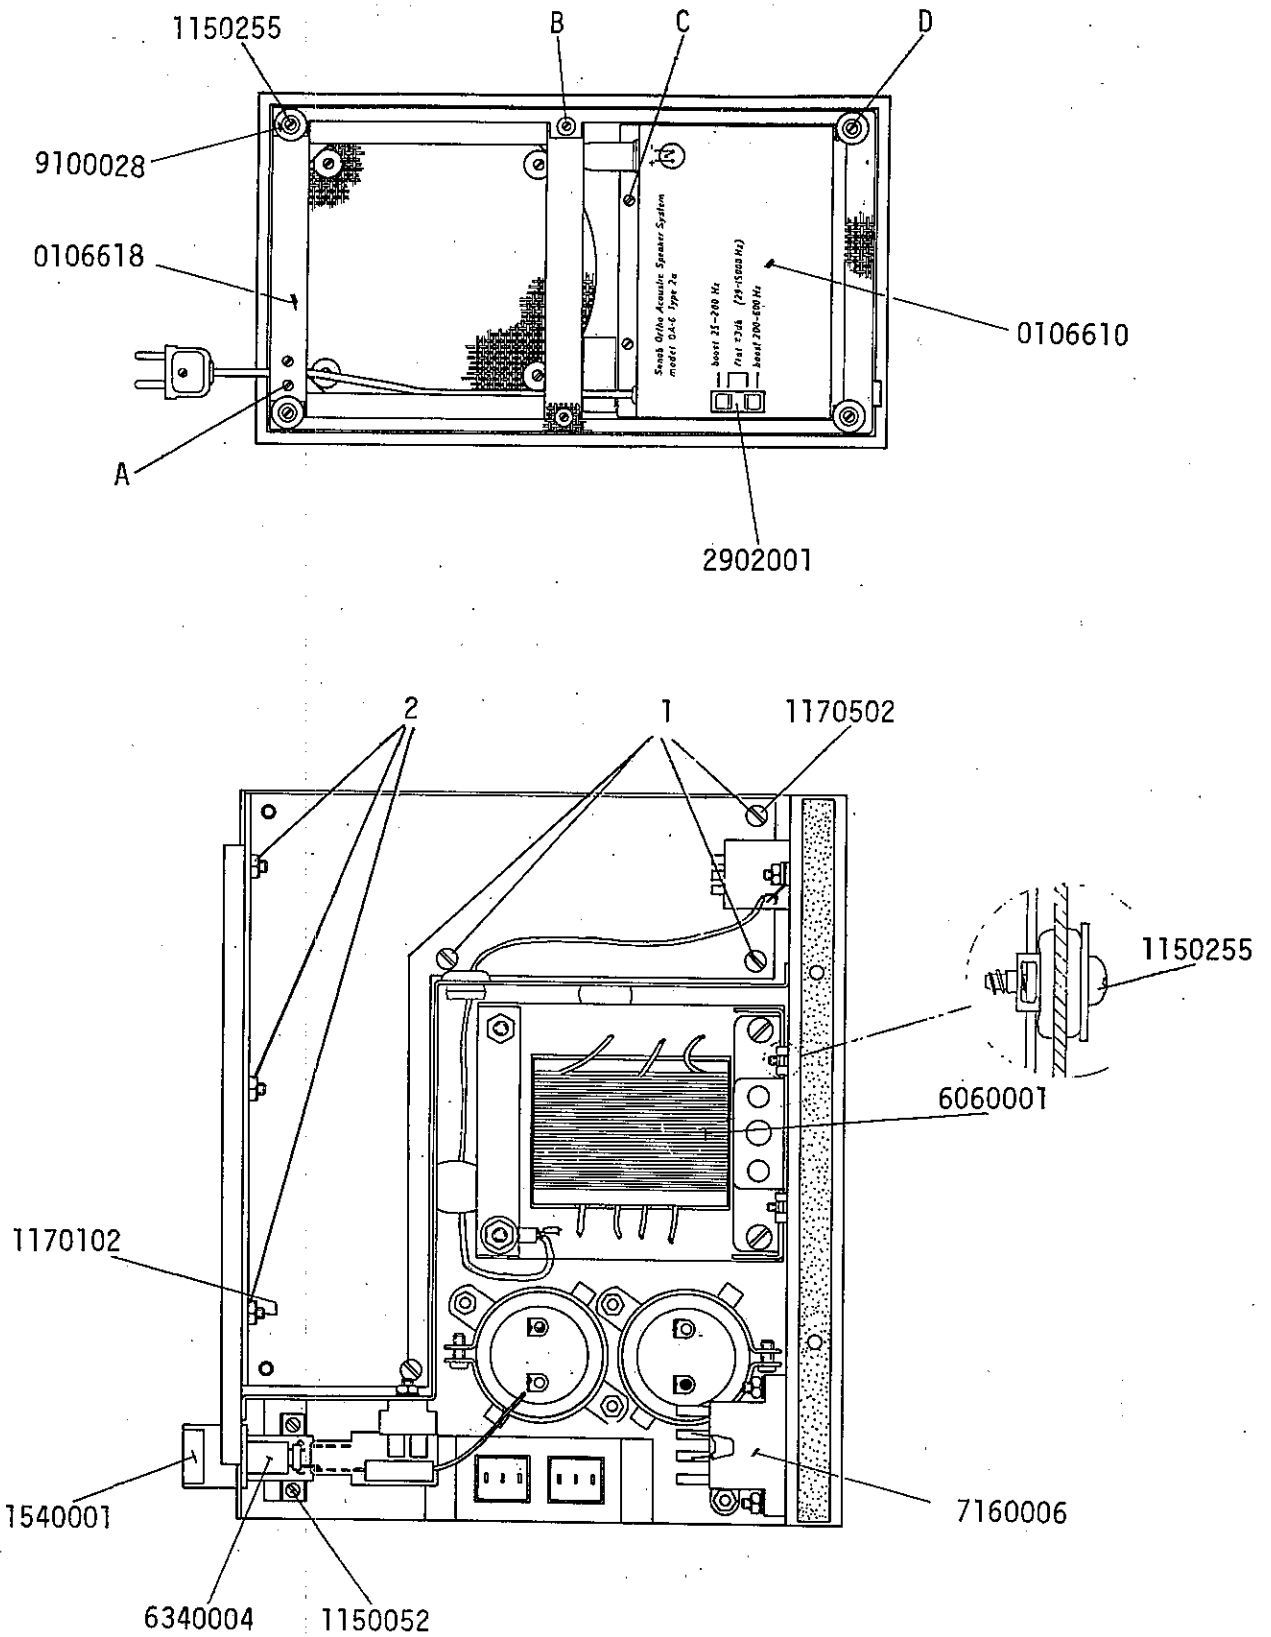

Fig 3. Bottom view and bass energizer
To remove the printed circuit board, loosen the four screws (1) plus the three screws (2) holding the heat sink. See Fig. 3.